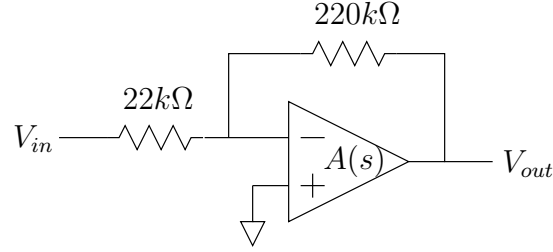

Figure 8: Uncompensated Op-Amp
4. The uncompensated system is shown in Figure 8.